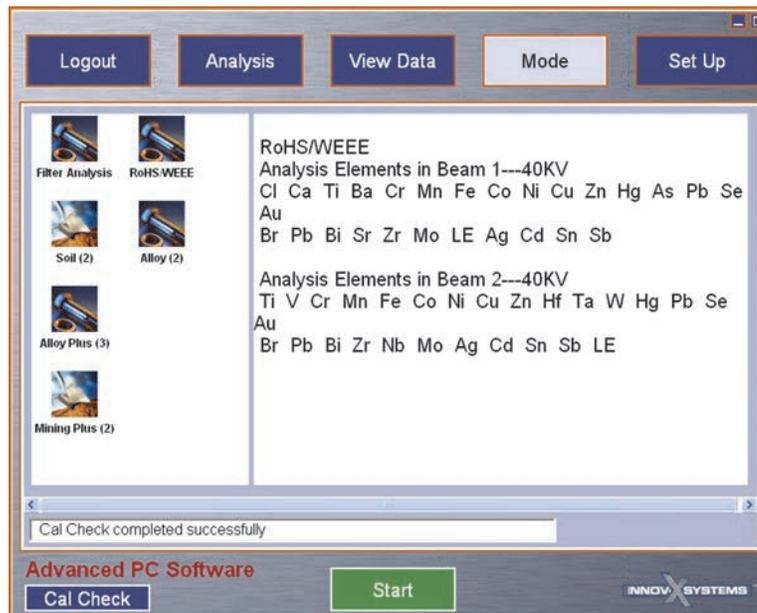

Figure 1-5 The Mode window
- ◆ On the left side of the window, click a mode icon (see Figure 1-5 on page 9).